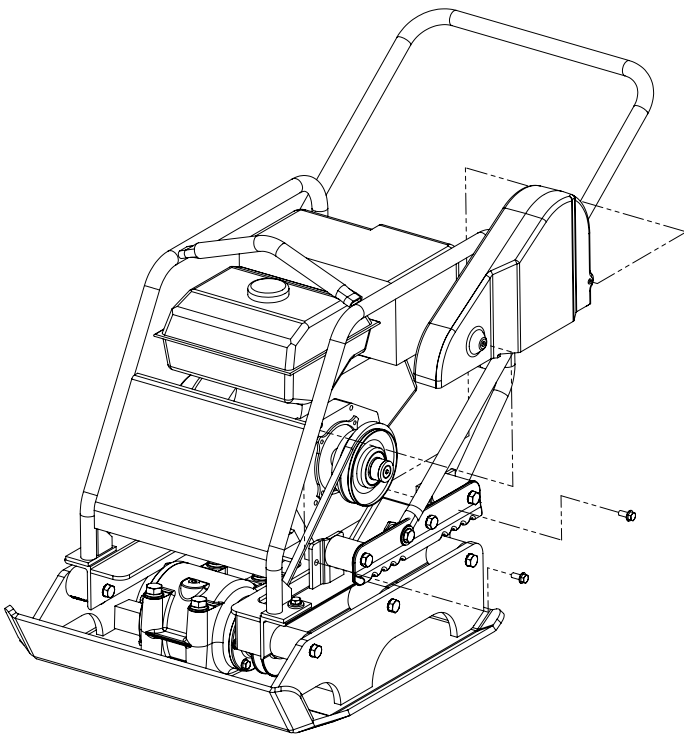

FIGURE 1
1. Remove two hex head flange bolts (#10) securing belt guard to roll cage & engine deck and remove belt guard. (See Figure 1)
3. Remove belt guard as described in Belt Adjustment section of this manual. (See Figure 1)
2. Remove belt guard as described in Belt Adjustment section of this manual. (See Figure 1)